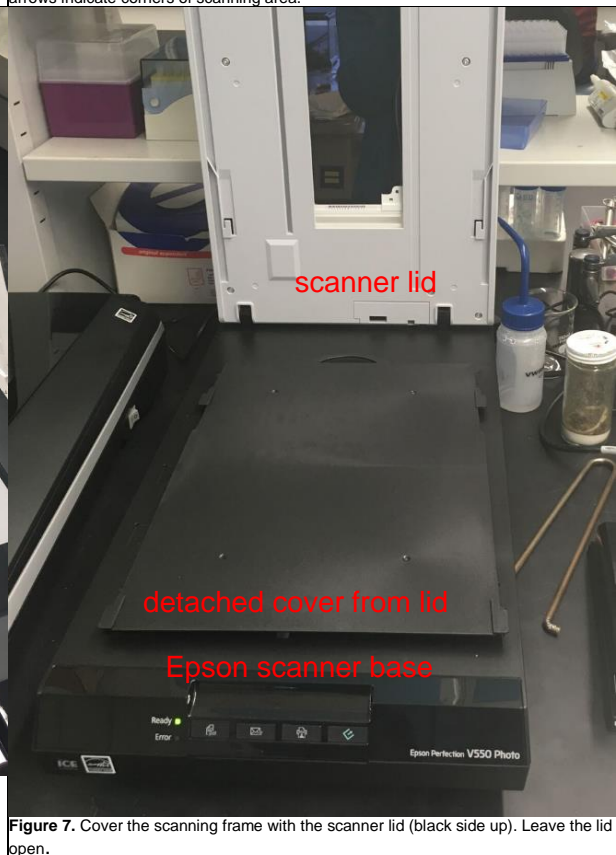

Figure 7. Cover the scanning frame with the scanner lid (black side up). Leave the lid open.
7. Finally, *carefully* and *slowly* cover the whole scanner frame with the detached cover from the lid of the scanner, making sure that the white side faces down (Fig. 7). Scan the specimen following the instructions below *without closing the lid* of the scanner.